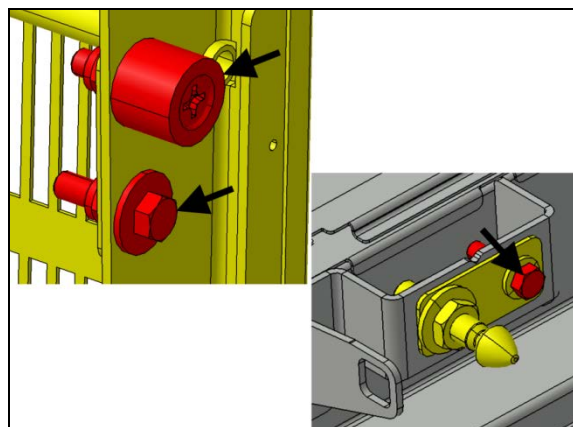

FIGURE 122
13. Open the door and perform a final tightening to the items indicated with arrows (FIGURE 122).